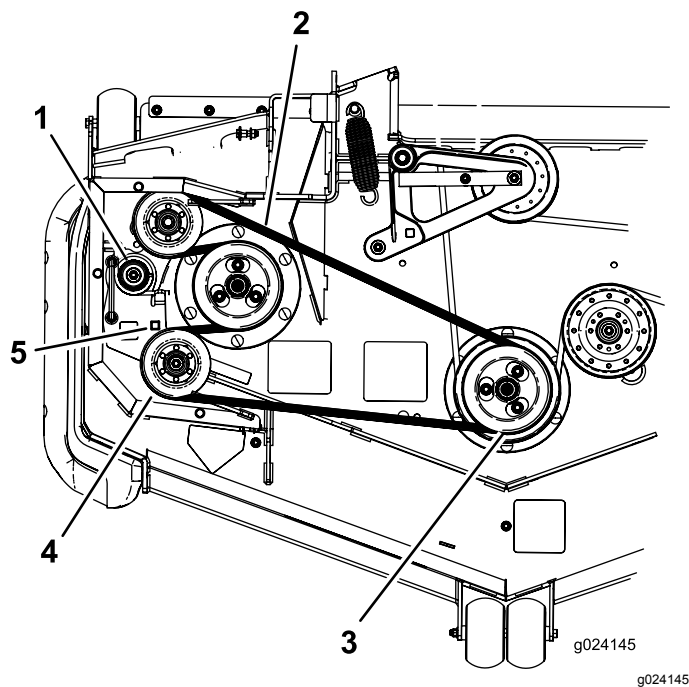

Figure 77
7. Use a ratchet in the square hole in the idler arm to remove tension on the idler spring (Figure 77).
8. Remove the belt from the mower deck pulley (Figure 77).
9. Remove the belt from the remaining pulleys (Figure 77).
10. Using the ratchet in the square hole, install the new belt around the mower pulleys and the idler pulleys (Figure 77).